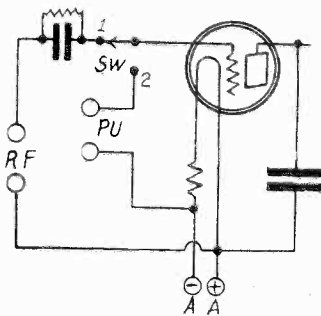
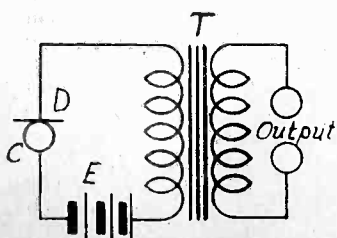

FIG. 78
FIG. 84
Fig. 78 illustrates a proper connection of the pickup unit in the grid circuit of a detector employing grid condenser and leak. The pick-up unit is connected across the terminals marked PU. One of these terminals is connected to minus A below the ballast resistor. The other is connected to one point of a single pole, double throw switch SW. When the amplifier following the detector is to be used for radio reception the switch is turned to point (1), thus picking up the tuned circuit and disconnecting the pick-up unit. The tube is then adjusted for detection. When the pick-up unit is to be used the switch is turned to point (2), disconnecting the tuner and converting the detector to an amplifier having a negative grid bias equal to the drop in the ballast resistor.
The coupling transformer can be used with any of the connections illustrated in Figs. 78 to 82 inclusive. It is necessary only to connect the secondary terminals of T1 to the points labeled PU in these circuits and leaving the terminals of the pick-up unit on the primary of T1.
While the pick-up unit has been put either in the grid circuit of the detector or in the primary of the first audio transformer in all the circuits shown in Figs. 78 to 83, inclusive, it may be better in some instances to put it in the grid circuit of one of the amplifier tubes or in series with the primary of the second transformer. Just where it should be put in any given amplifier depends on the amplification, the sensitivity of the pick-up unit, the volume desired, and on the effectiveness of the volume control built in with the pick-up unit. In most instances sufficient volume will be obtained if the unit is connected in the grid circuit of the amplifier ahead of the power tube.
Some experimenters often have occasion to use a microphone with their amplifiers, either for telephonic communication or for measuring sound intensities. The connection of a microphone to a power amplifier is essentially the same as the connection of a phonograph pick-up unit, and the terminals marked PU in the circuits in Figs. 78 to 81, inclusive, may be used for connecting the microphone output. What is meant by the output terminals is indicated in Figs. 84 to 87, inclusive.
The carbon button microphone operates on the principle of varying resistance. The sound waves exert a pressure on the diaphragm D, Fig. 84, and this in turn exerts a varying pressure on the carbon granules. The resistance of the carbon is lower, the greater the pressure. As long as the pressure on the carbon remains constant, a steady current flows from the battery E through the carbon and the primary of transformer T. As sound falls on the diaphragm, the resistance varies and therefore the current varies. This varying current flows through the primary of transformer T and induces a corresponding varying electromotive force in the secondary. The induced emf is alternating and can be impressed on the grid of an amplifying tube.